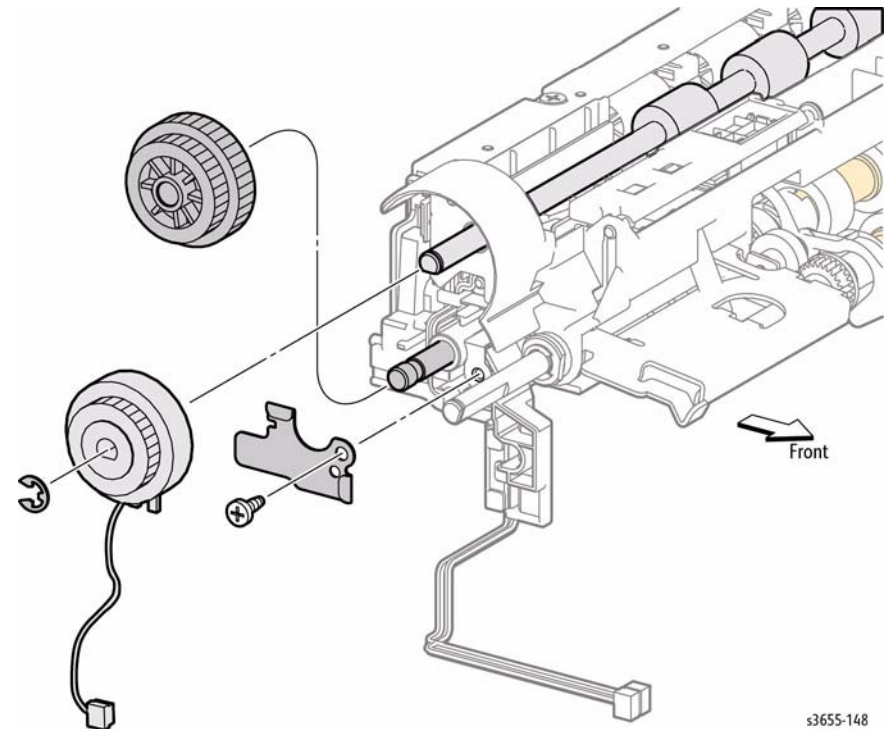

Figure 1 Remove the Registration Clutch
7. Refer to Figure 1 to locate and remove the idler gear, 1 screw (silver, tapping, 8mm), E-ring, and disconnect the Registration Clutch to remove.